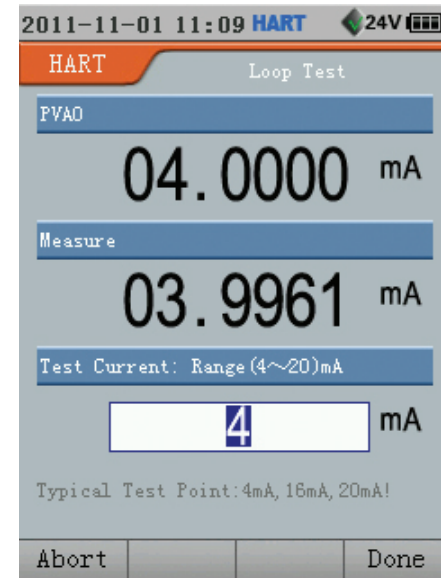

Figure 11 7 HART Loop Test
- 1 .In the HART diagnostic and service interface, choose PV Zero Trim from the list and then press **Enter** or **Select** to start the PV zero operation. You will be asked to confirm the PV zero (As shown in Figure 11 8).